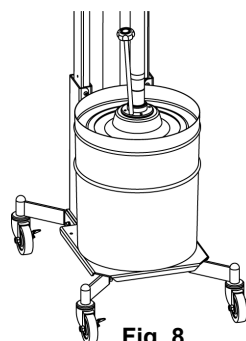

Fig. 8
- 7) Switch the control of the lift up/down switch to "DOWN". The lift slowly moves down due to the pump's own weight. Adjust the position of the pail so that the inductor plate can be set normally. (Fig. 8)